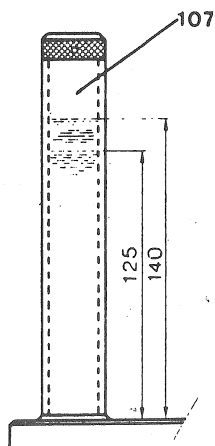

Fig 28
8. As soon as the oil within the indicator tube (107) reaches a level intermediate between 5" (125 mm) (minimum) and 5½ (140 mm) (maximum) (fig. 28), switch off the pump (590) of the hydraulic circuit by means of switch (823).